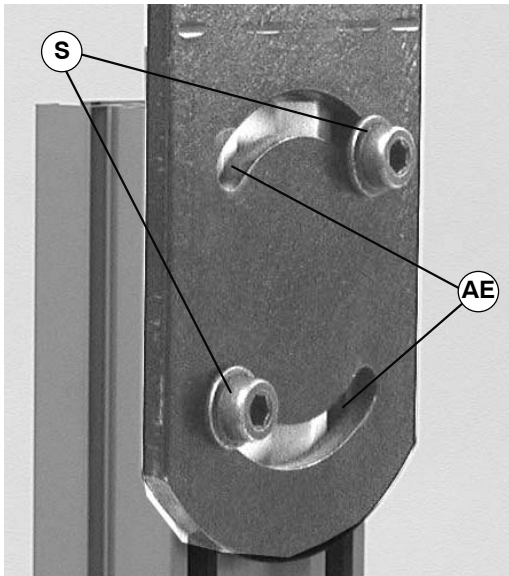

Figure 23
NOTE: To rotate stand top plate, screws (S of Figure 23) may need to be re-located to other t-slots (AE).
1. Loosen flange socket screws (S of Figure 23) on both sides of stand.
3. Secure flange socket screws (S of Figure 23) to 24 ft-lb (18 Nm).